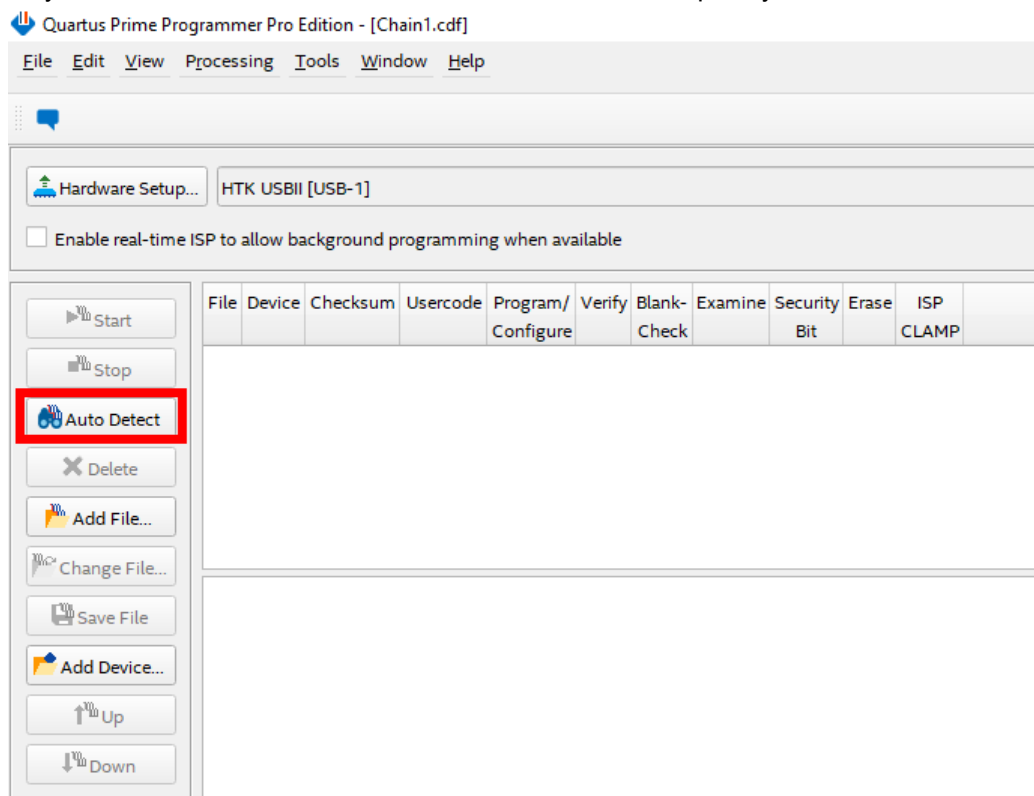

Figure 4-8. Auto Detect in Quartus Prime Programmer
14. Open Quartus Prime Programmer and click the "Auto Detect" button. For navigation to the respective function, see Figure 4-8. If this is the first time the eSOM7 is connected to the PC and the "Auto Detect" button is grayed out, click on the "Hardware Setup..." button, select the "HTK USBII" in the drop down next to "Currently selected hardware" and check that the "Hardware frequency" is set to 24000000Hz.